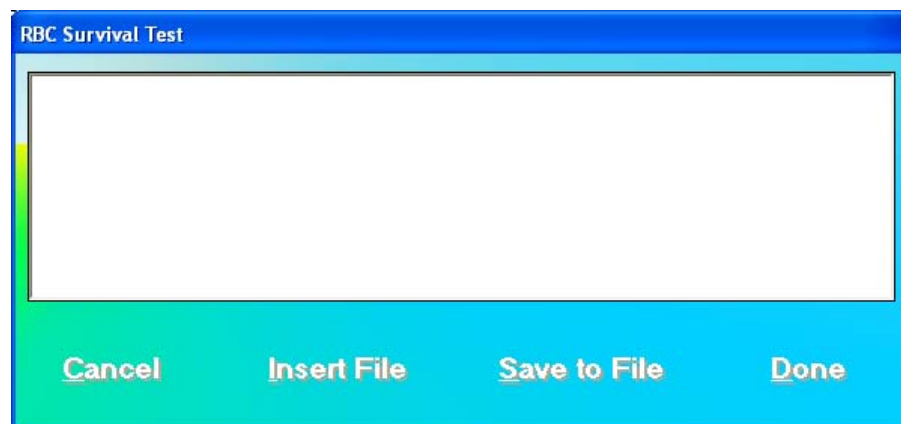

Figure 10-82
- To add comments to the report, click the **Enter Comment** button or press *ALT+C*. The screen appears as in Figure 10-82.